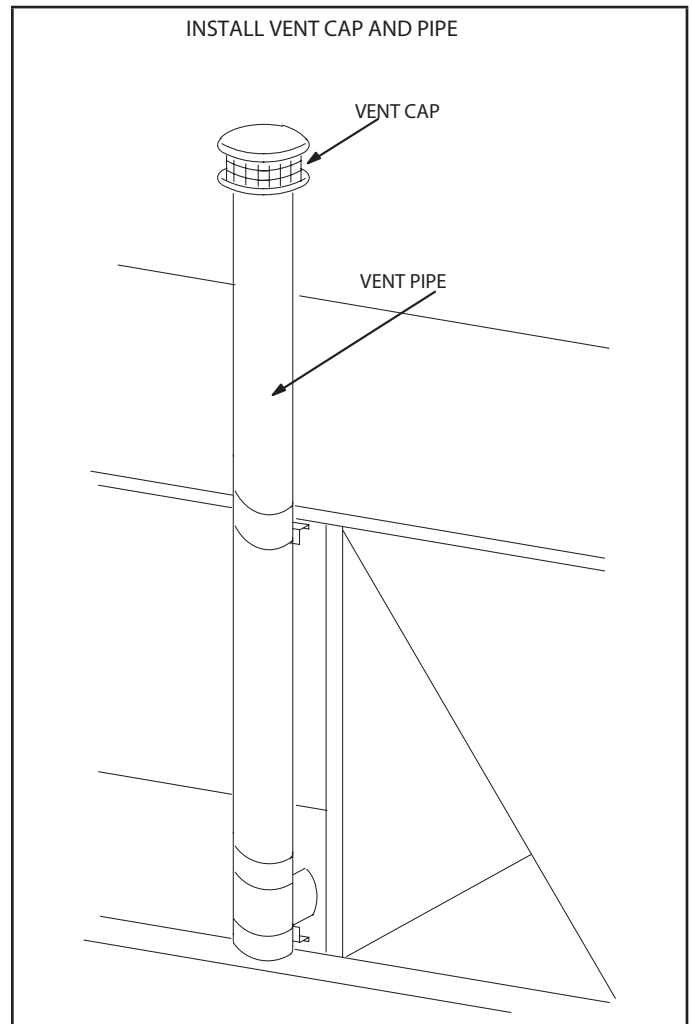

FIGURE 10
- 11 - Install field-provided vent cap on the second vent pipe. Secure in place with two screws. Insert the vent pipe into the vent pipe which is already installed on the unit. Secure with two screws. See figure 10.